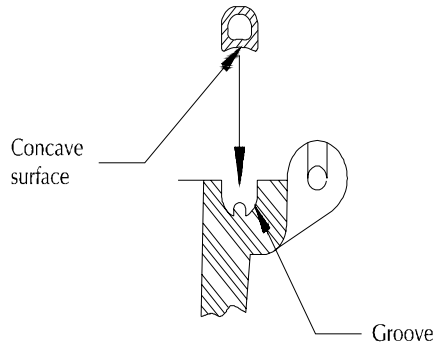

FIGURE 2 Installation of the gasket into the groove.
1. Begin at a corner and push the flat surface of the gasket straight down into the groove using the thumb or finger of one hand (see Figure 2). With the other hand, stretch the gasket slightly while pushing the gasket down so that the gasket fits into the groove easily.